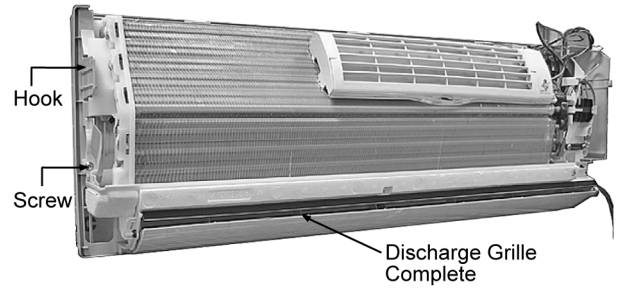

Fig. 5
- Pull down the Discharge Grille Complete. (Fig. 5)